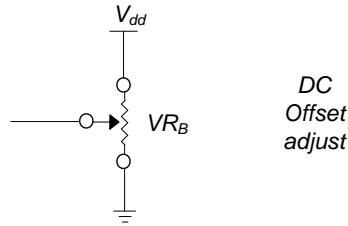

Fig. 4
The DC offset adjustment is implemented by a variable resistor (VR), as shown in Fig. 4.